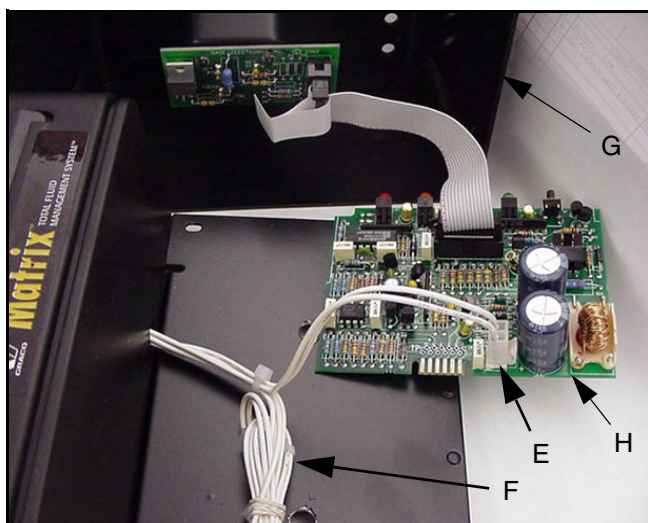

FIG. 3
5. Locate the bundle of wires (F) that extends through the hole of the charger and remove the rubber band. See FIG. 3.
Note: The charging board (H) may need to be repositioned within the charger cover (G) before the charger cover can be attached to the flat metal plate. Slide the charging board (H) into the cover (G) using the two grooves at the top of the unit. When correctly positioned, the LEDs should extend through the holes at the top of the cover. See FIG. 3.
10. Connect the shorter wire (F) to the connector (E) on the original end unit charger that was removed during the disassembly procedure. See FIG. 3. Make sure the plug step is positioned towards the white connector (E).
11. If one extender was added, coil up the remaining wire (F) and place it inside the last charger unit.